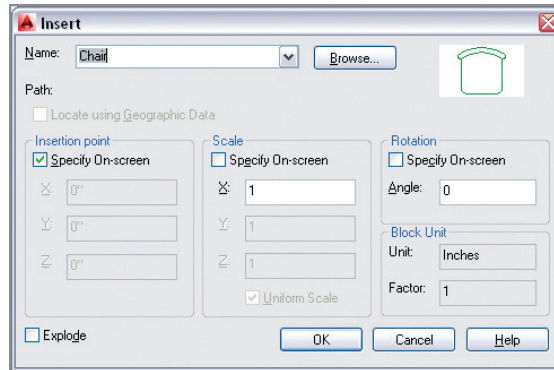

FIGURE 7.9 Selecting the Chair block definition in the Insert dialog box
- Click the Insert tool on the Block panel on the ribbon's Home tab. Open the Name drop-down list in the Insert dialog box and select Chair. If it's not already selected, choose Specify On-Screen in the Insertion Point section of the Insert dialog box (see Figure 7.9). Click OK.